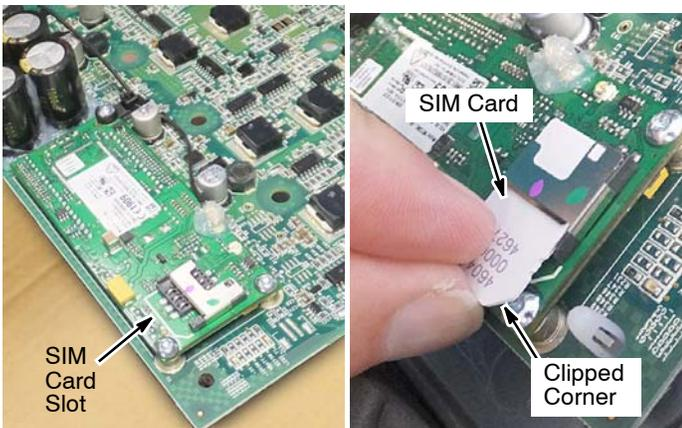

Fig. 7
3. Fully insert the SIM card into the circuit board card slot as shown (Figure 7).